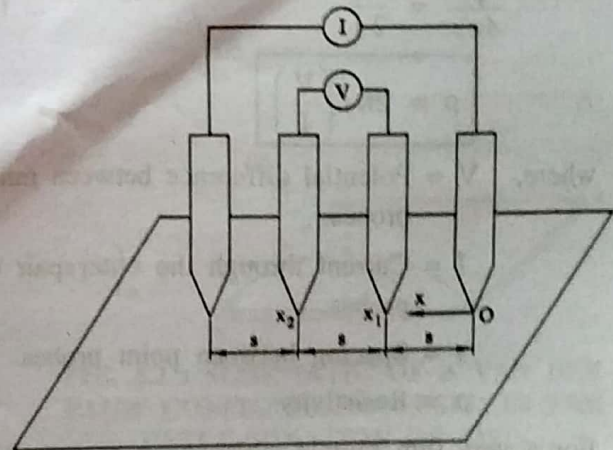

FIG. 4.1 : FOUR-POINT PROBE SYSTEM
- The four-point probe method Fig. 4.1 is used to measure the resistivity of semiconducting materials.